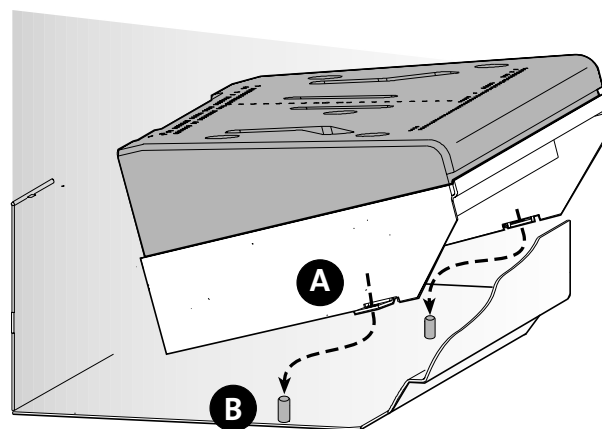

Figure 11.1. Burner installation.
2. Tilt the burner assembly back as shown in fig 11.1 to engage it with the injectors in the back wall and the shutter trays on the firebox floor. Settle the assembly on the floor engaging the front retainer brackets (A) with the adjacent floor studs (B).